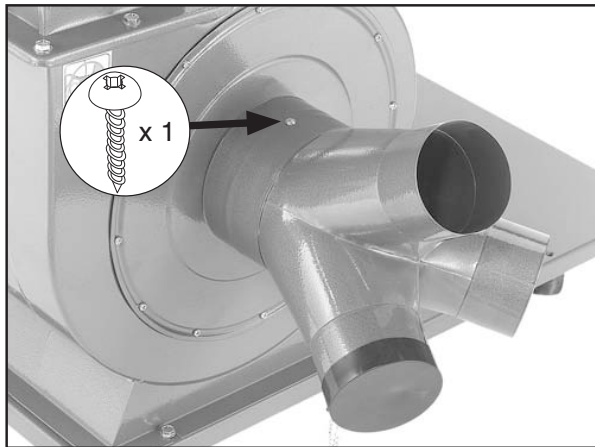

Figure 25. Inlet connector installed.
14. Insert the inlet connector over the impeller intake hole, then secure it in place with the #10 x 3/8" tap screw, as shown in **Figure 25**.